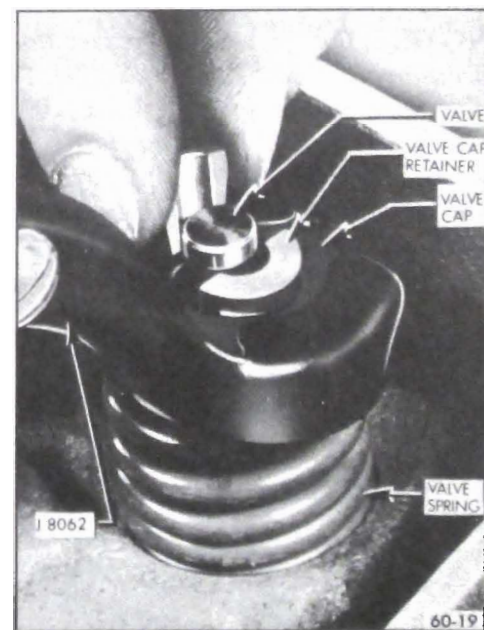

Figure 60-214 Removing Valve Cap Retainers.
2. Using suitable spring compressor, such as J-8062, compress valve spring and remove valve spring cap key. Release tool and remove spring and cap. See Figure 60-214.